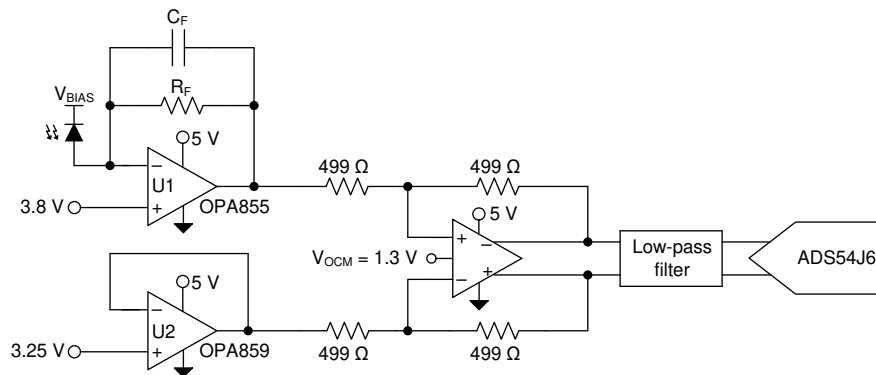
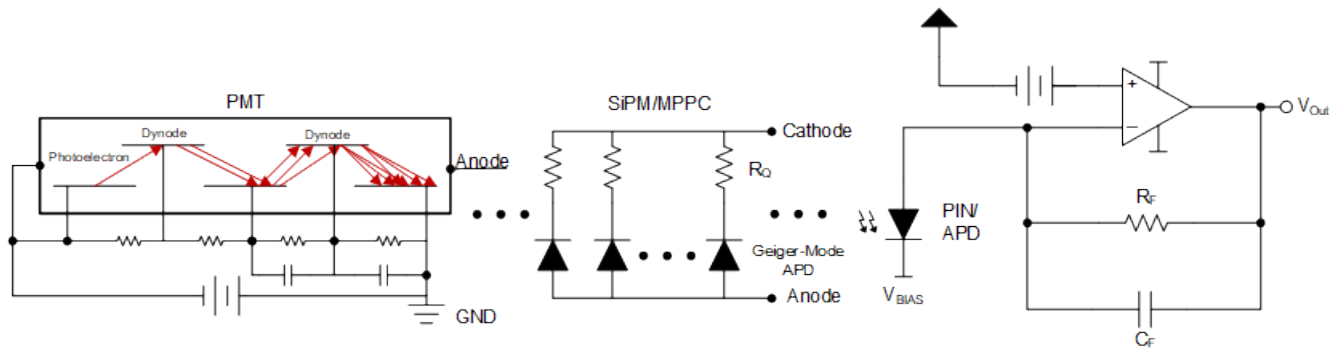

図 10-1. OPA855 as a TIA in an Optical Front-End System
Figure 10-5. Transimpedance Amplifier with APD or SiPM/MPPC or PMT Inputs
Figure 10-1 shows the OPA855 configured as a transimpedance amplifier (U1) in a wide-bandwidth, optical front-end system. A second amplifier, the OPA859-Q1, configured as a unity-gain buffer (U2) sets a dc offset voltage to the THS4520. The THS4520 is used to convert the single-ended transimpedance output of the OPA855 into a differential output signal. The THS4520 drives the input of the ADS54J64, 14-bit, 1-GSPS analog-to-digital converter (ADC) that digitizes the analog signal.
Figure 10-1 shows the OPA855 configured as a TIA, with the avalanche photodiode (APD) reverse biased so that the APD cathode is tied to a large positive bias voltage. In this configuration, the APD sources current into the op amp feedback loop so that the output swings in a negative direction relative to the input common-mode voltage. To maximize the output swing in the negative direction, the OPA855 common-mode voltage is set close to the positive limit; only 1.2 V from the positive supply rail. The feedback resistance (R_F) and the input capacitance (C_{IN}) form a zero in the noise gain that results in instability if left unchecked. To counteract the effect of the zero, a pole is inserted into the noise gain transfer function by adding the feedback capacitor (C_F).
OPA855 offers 8 GHz of gain bandwidth, high slew-rate, and low noise which makes this device suitable for a wide range of photodetectors. Figure 10-5 shows the OPA855 configured as a transimpedance amplifier (TIA) in a wide-bandwidth, optical front-end system. Various types of optical sensors can be used as an optical input to the amplifier: photodiode (PD), avalanche photodiode (APD), Photomultiplier Tube (PMT), and Multi-Pixel Photon Counter (MPPC) or known as Solid-State Photomultiplier (SiPM). Optical detection applications have commonly used APDs, but ultra-low light source detection has been a challenge in past solutions. With technologies such as PMTs and MPPCs, their high intrinsic gain, while maintaining a fast output, requires a low noise, high-speed interface. The OPA855 can accommodate for these optical challenges and would work equally as well in these applications.
図 10-5 shows the OPA855 configured as a TIA, with the optical sensor reverse biased so that the diode cathode is tied to the positive bias voltage. A RC filter can be used at the reverse bias node as a low pass filter to eliminate high frequency noise. The internal capacitance of photodetectors will vary based on sensor type and the value of the applied reverse voltage. The setups between each sensor type will slightly differ, but the connection to the amplifier will be consistent throughout.
The DC voltage bias at the non-inverting input of the OPA855 shown in Figure 10-5 will set the common-mode voltage which will maximize the output swing of the system in mismatched power supply configurations. The DC bias is critical to avoid clipping or saturating the output stage of the amplifier. For the later stages, a fully differential amplifier (FDA) can be used to convert single-ended signal to a differential input to drive an analog-to-digital converter (ADC) as shown in Figure 10-1. Higher order filters can be added between the FDA and ADC for system noise reduction.